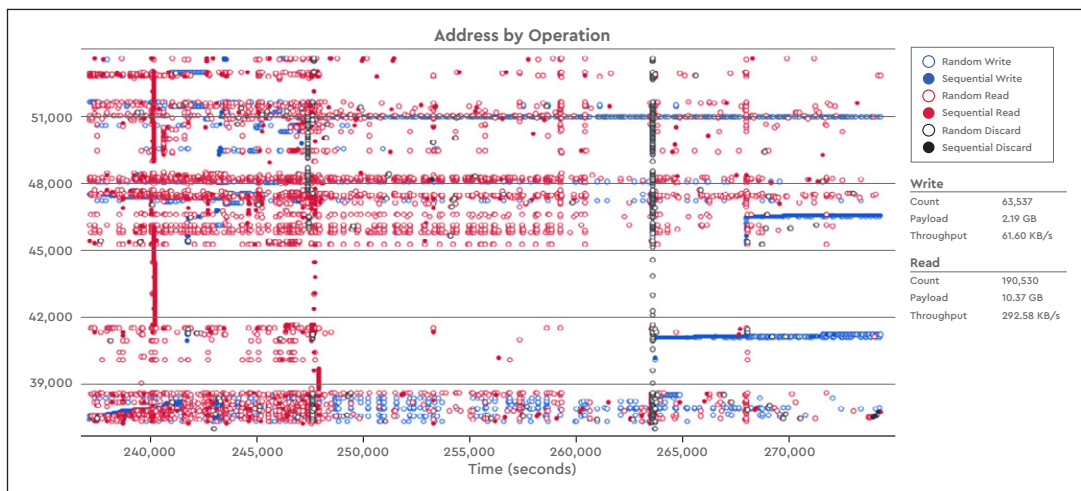

Figure 2. Operation spread on the address span over time
- I/O operations spread on the address span over time (see example in Figure 2)